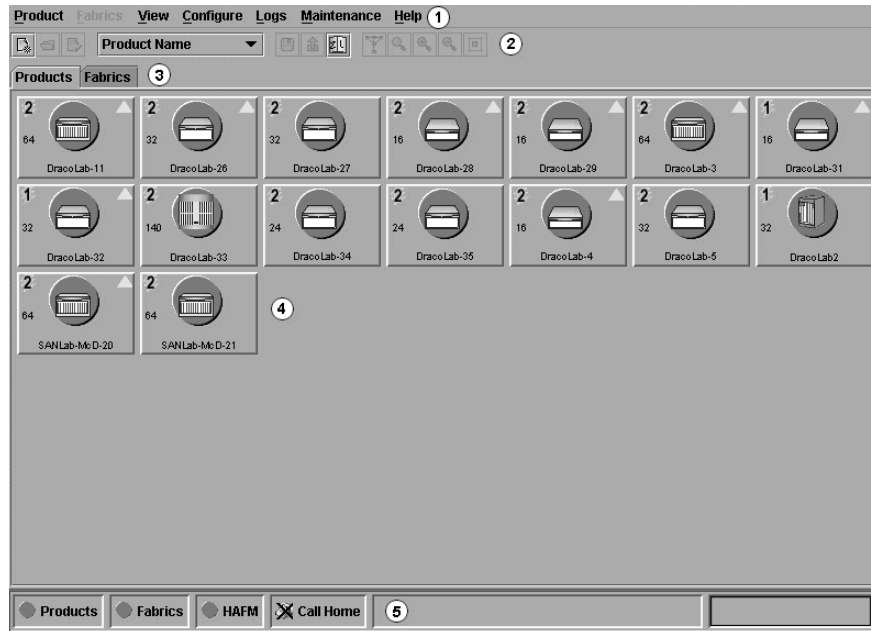

Figure 6: High Availability Fabric Manager main window
8. Click **Login**. The main HAFM window displays the **Product View** (Figure 6).
4. Click **Login**. The main HAFM window displays the **Product View** (Figure 6).